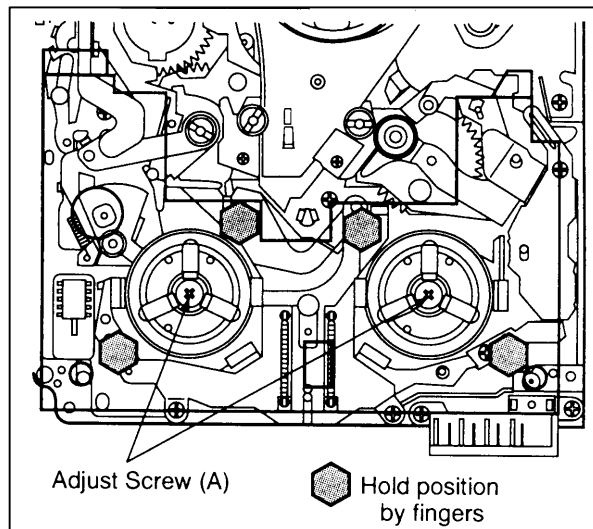

Figure M45
2. Hold the Mechanism plate by finger and slowly turn the adjustment screw counterclockwise until Reel Table just rotate with adjustment screw as shown in Fig.M45.